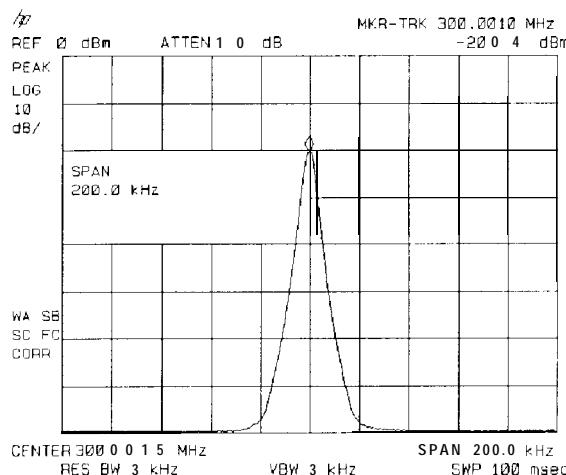

Figure 3-7. After Zooming In on the Signal
2. Press **(MKR FCTN)**, MK TRACK ON OFF (ON) and the signal will move to the center of the screen, if it is not already positioned there (note that the marker must be on the signal). Because the marker track function automatically maintains the signal at the center of the screen, you can reduce the span quickly for a closer look. If the signal drifts off of the screen as you decrease the span, use a wider frequency span.
3. Press **(SPAN)**, 200 **(kHz)**. The span decreases in steps as automatic zoom is completed. See Figure 3-7. You can also use the knob or step keys to decrease the span or use the **PEAK ZOOM** function under **(SPAN)**.